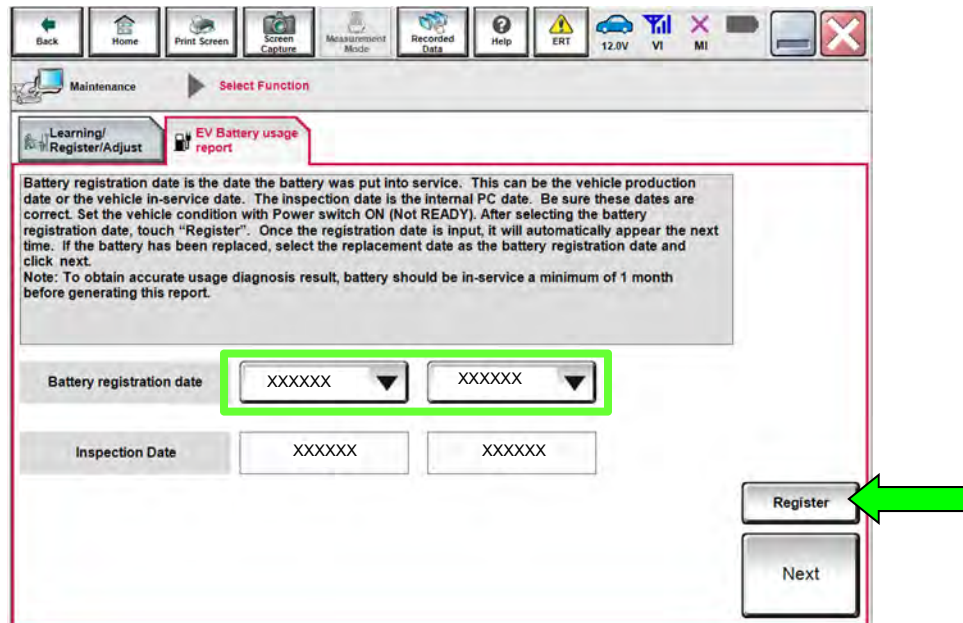

Figure 16
25. Input the correct "Battery registration date" (see Figure 16).